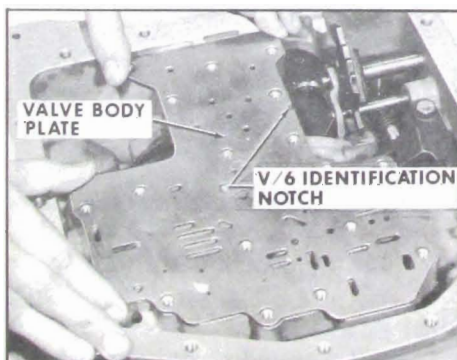

Figure 5-341
**NOTE:** V/6 valve body plates have identification notch. See Figure 5-341.